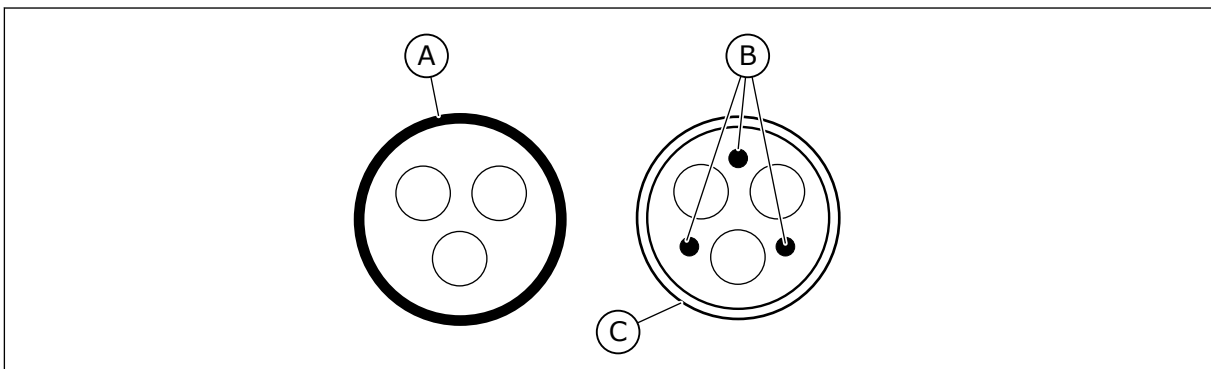

Fig. 20: Cables with PE conductors
2. A symmetrical power cable with a concentric protection wire. A cable for the specified mains voltage. We recommend an NKCABLES/MCMK cable. See *Fig. 20*.
3. A symmetrical power cable with a compact low-impedance shield. A cable for the specified mains voltage. We recommend an NKCABLES /MCCMK, SAB/ÖZCUY-J or equivalent cable. See *Fig. 20*. * = For the EMC levels C1 and C2, it is necessary to have a 360° grounding of the shield with cable glands in the motor end.